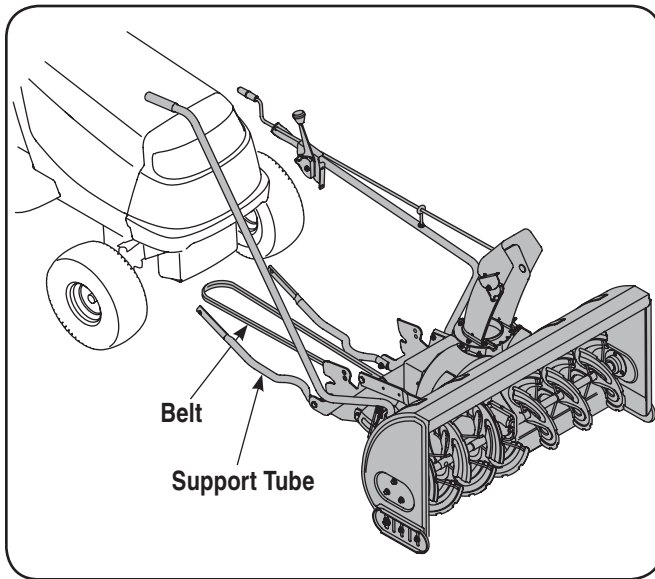

Figure 3-15
2. Position the auger housing assembly in front of the tractor. See Fig. 3-15. Lay the belt and support tubes on the installation surface.